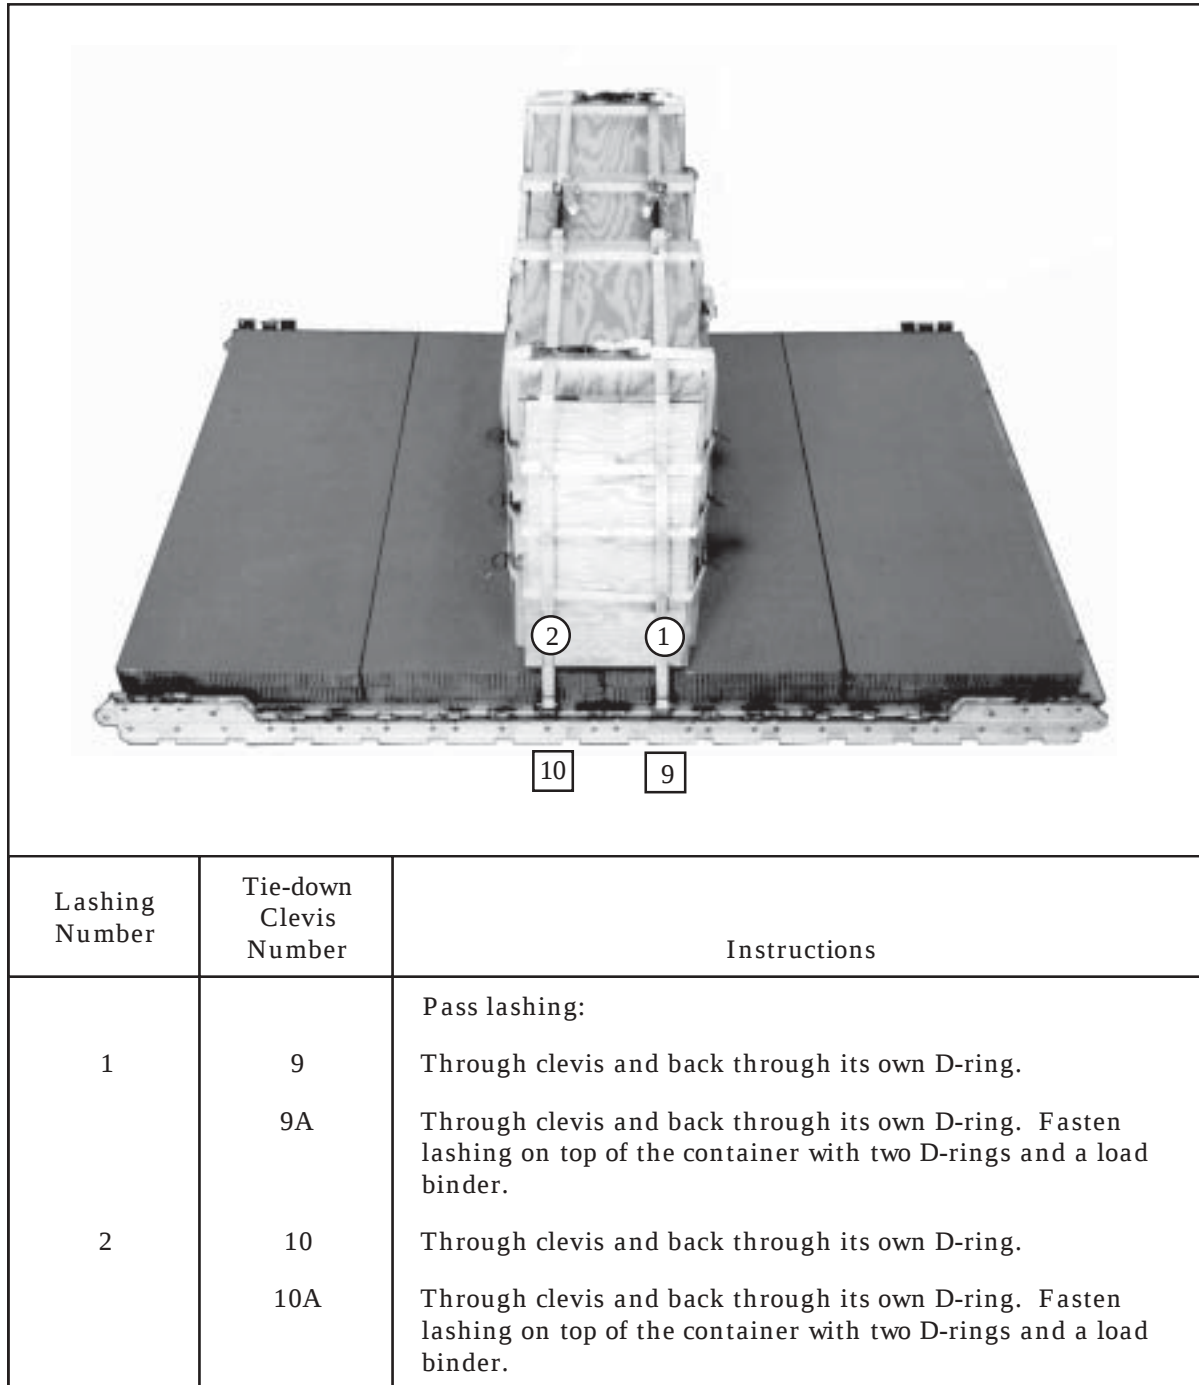

Figure 1-15. Container Lashed to Platform
- b. LASHING CONTAINER.** Use sixteen 15-foot tie-down assemblies to lash the container to the platform as outlined in FM 4-20.102/NAVSEA SS400-AB-MMO-010/TO 13C7-1-5 and as shown in Figure 1-15.